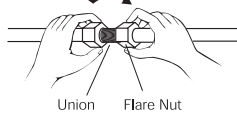

Figure 12
3. For proper connection, align the union tube and flare tube straight with each other, then screw in the flare nut lightly at first to obtain a smooth match (Figure 12).